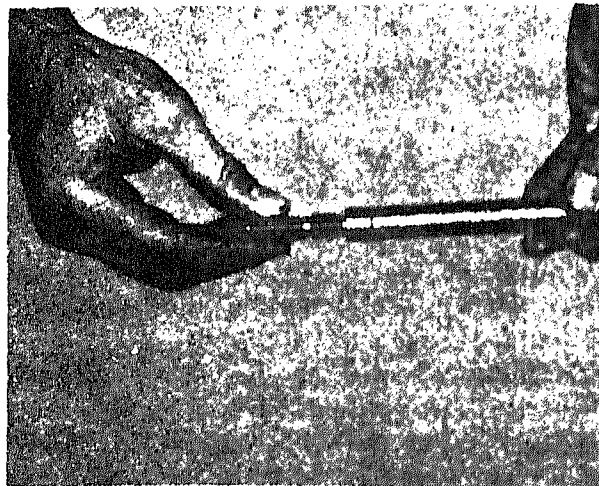

Fig. 3-2-2. Checking push-tube socket end with adjusting screw
3. Check socket of push tube with ball end of a new rocker lever adjusting screw, Fig. 3-2-2, or with a  $\frac{1}{2}$  in. [12.7000 mm] check ball which should "blue in" 80% of seat area; spherical inside diameter new is 0.4995/0.5005 in. [12.6873/12.7127 mm].